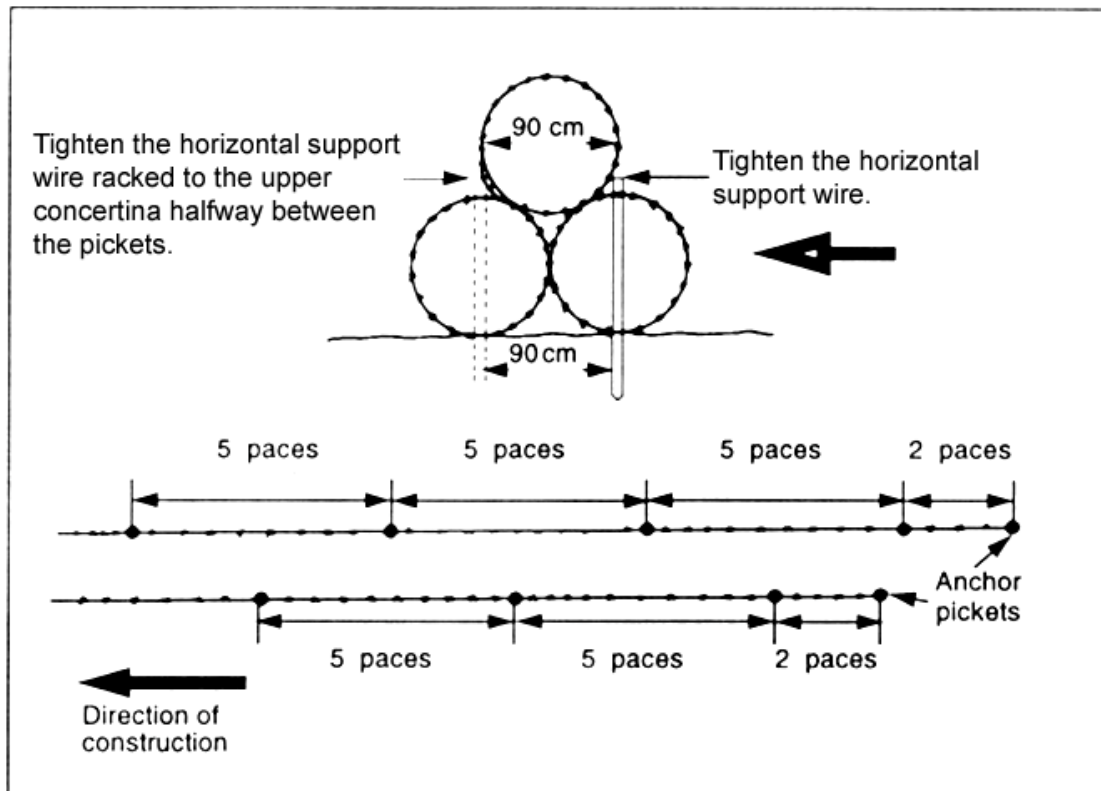

Figure 052-195-3066-2
- (1) Ensure that work is done from the enemy side to the friendly side.
- (2) Direct the installation of an anchor picket (short picket) at each end of the front and back row (2 paces).
- (3) Ensure that long pickets are spaced at 3.8-meter (5-pace) intervals (stagger the back row) (Figure 052-195-3066-2).